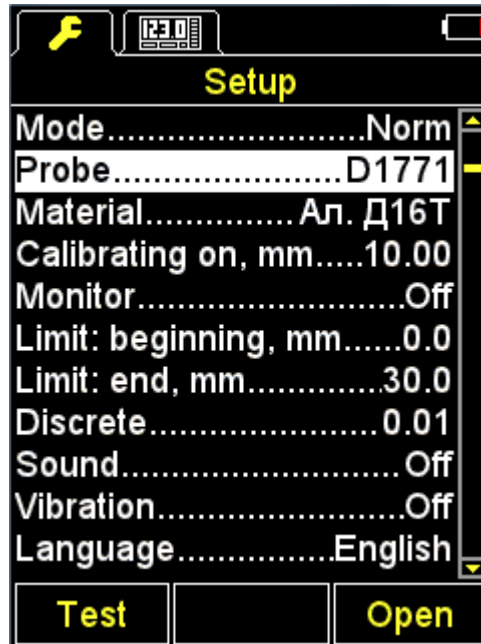

Figure 13
– using the   keys switch to the PT option and press F3 key (Open) or  to enter the library of the transducers (Figure 13).